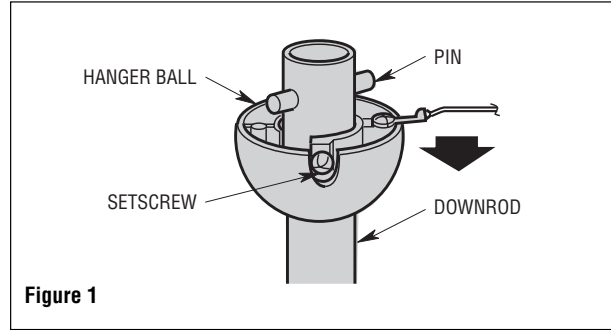

Figure 1
1. Remove the hanger ball by loosening the setscrew in the hanger ball until the ball falls freely down the downrod (Figure 1). Remove the pin from the downrod, then remove the hanger ball. Retain the pin and hanger ball for reinstallation in step 4.